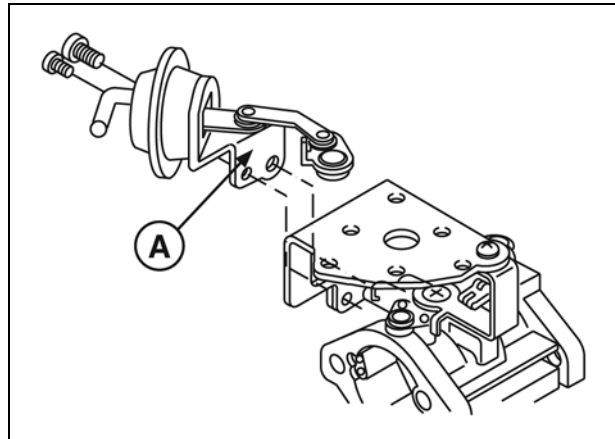

Figure 34
8. Remove two screws, choke plate (B) and choke shaft (C).
9. Remove two screws and vacuum choke break (A, Figure 34).